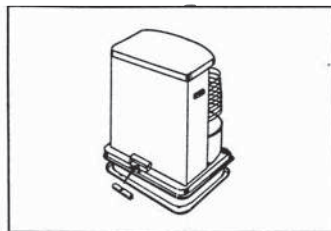

Fig. 3
4. INSTALLING BATTERIES (Fig. 3)
- Insert two (2) "D" cell batteries (supplied with this heater) according to the plus (+) and minus (-) markings inside of the holder.